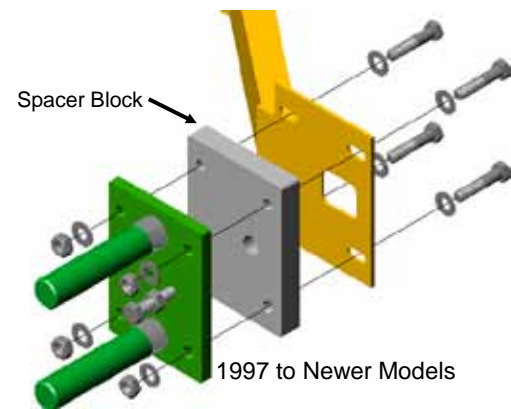

Figure 27
- **1997 to Newer Models-** one Spacer Block, four 3/8"-24 x 2 1/4" L Hex Bolts, eight 3/8" SAE Flat Washers and four 3/8"-24 NyLoc Nuts. Figure 27